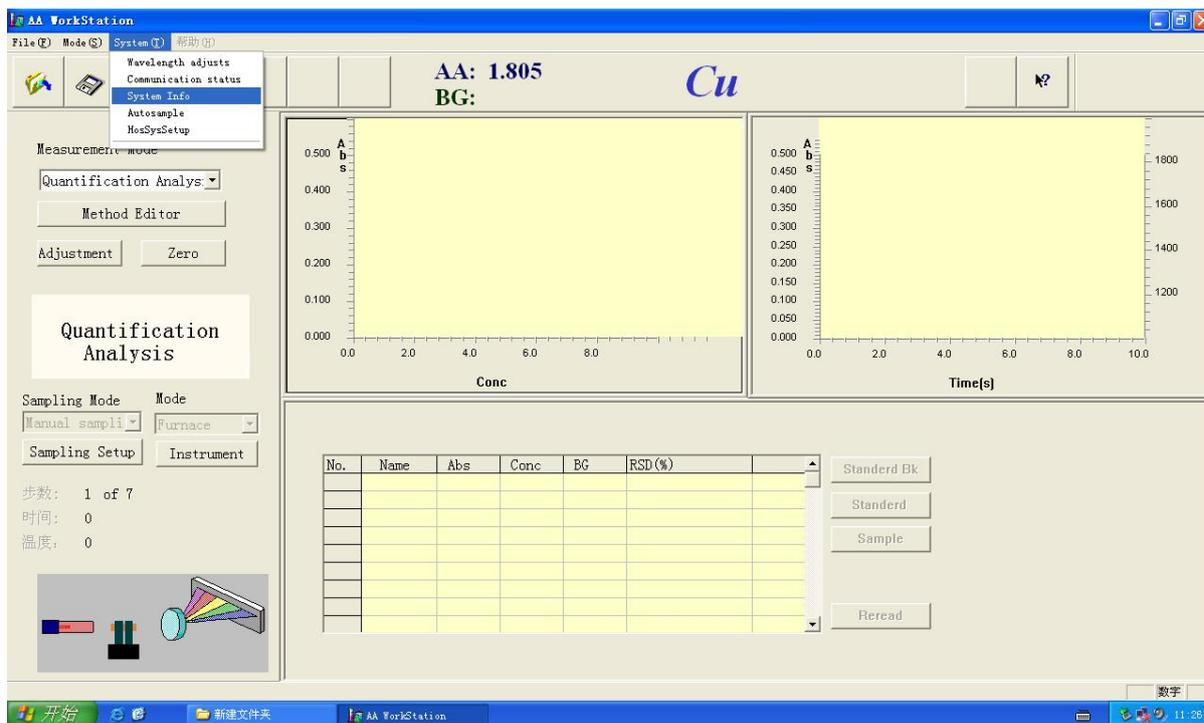
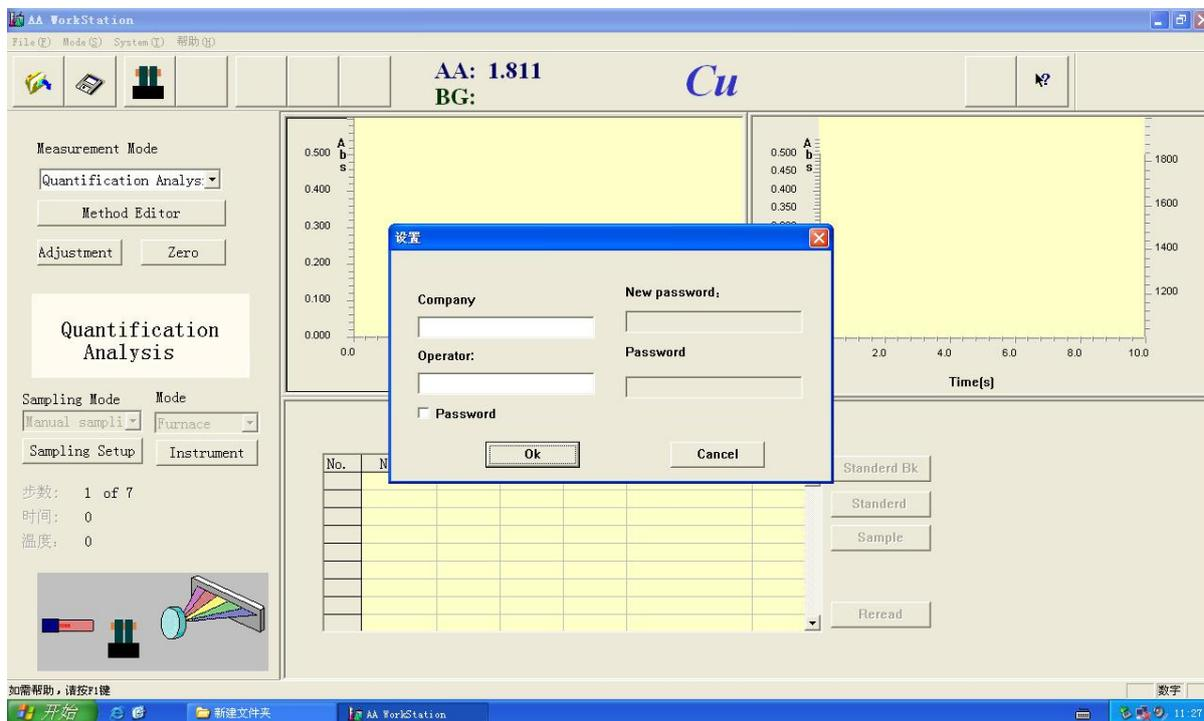

Figure 4-7
Figure 4-8
5. Select the System / system info in the menu bar, as shown in Figure 4-7, the dialogue box is shown in Figure 4-8